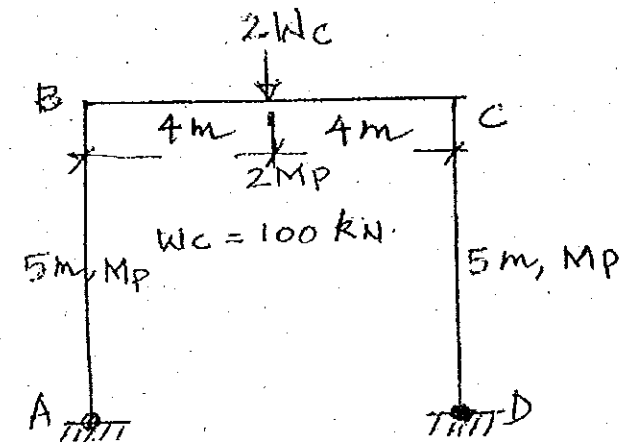

Fig. Q 14(b)
- (b) Determine the collapse load factor for the frame loaded as shown in Fig. Q 14(b).